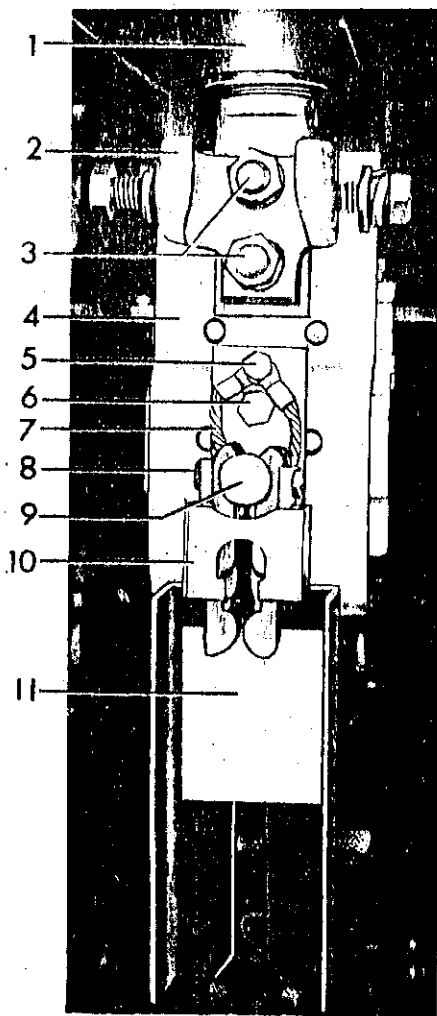
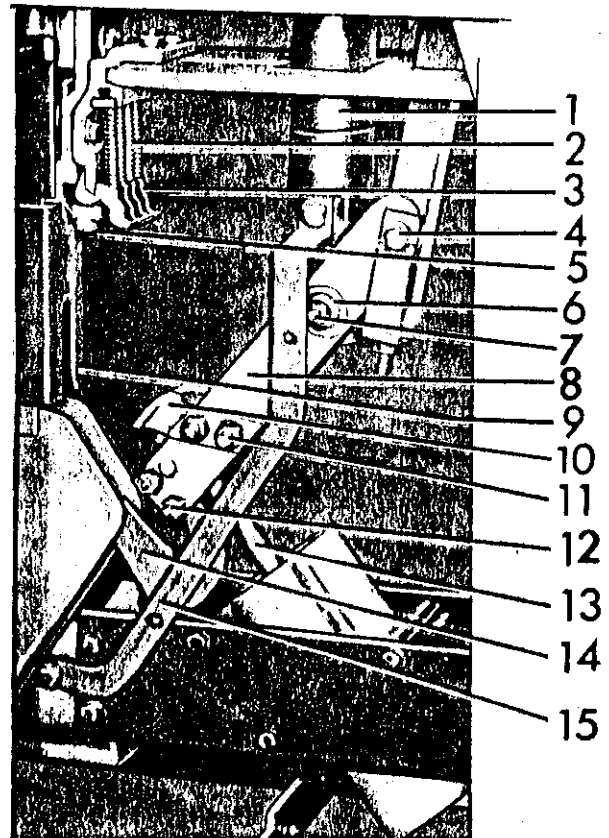

Figure 22. (8039586) Rear Bushing Assembly
Figure 23. (8038805) Contact Assembly
2. Primary Contacts (3 and 10 Figure 23). Inspect the condition of the stationary contact fingers and movable contact blocks. Badly pitted or burned contacts should be replaced. (Note: Burned primary contacts indicate the probable need for arcing contact replacement.) If the contact surfaces are only roughened or galled, they should be smoothed with crocus cloth or draw filed. After contact dressing the primary contacts should be greased lightly with D50H47.
7. The cup bearing and the contact ring at the hinge point of the contact blade should be disassembled, inspected, cleaned, and relubricated with G-E contact lubricant D50H47. The contact ring should be inspected for wear and replaced when reduced in thickness to less than 1/32". When reassembling the cup bearing, be sure the cotter pin is properly assembled in the castle nut on the hinge pin (7) Figure 23. This assures proper contact pressure at the hinge.
3. The stationary primary contact fingers (3) Figure 23, should be disassembled and the silver-plated pivot area of the contact and contact support cleaned and lubricated with G-E lubricant D50H47.
#### A. Stationary Arcing Contacts (10) Figure 22.
1. Disconnect the contact braids (7) from the contact fingers by removing two bolts and locking plates (8).
3. To disassemble braids from stud plate remove one bolt (5).
4. To disassemble stud plate from contact support, remove two bolts (6).
5. Reassemble in the reverse order, make sure locking plates are properly reassembled with bolts (8).
#### B. Movable Arcing Contact (14) Figure 23.
1. Remove the assembly bolts (12) making note of quantity and location of shims and spacers used between contacts and contact arms.
3. Close the breaker slowly to check that the movable arcing contact is approximately centered on the stationary arcing contact and that it does not rub on either side of the throat barrier (9).
D. Movable Primary Contacts (10) Figure 23.
1. Disassemble operating rod pin (4), first noting quantity and location of washers in the assembly.
2. Pry contact arms (8) apart enough to disengage pivot pins of piston assembly (13) allowing piston to drop down into its booster cylinder.
3. Rotate the two parts of the contact arm assembly away from each other so assembly bolts (11) are accessible and movable primary contacts (10) can be removed.
E. Contact Arm Assembly (8, 10, 13, 14) Figure 23.
1. Remove connection bar (15).
2. Disassemble hinge pin (7), cup bearing (6) and operating rod pin (4) noting quantity and location of any washers and spacers used in assemblies.
3. The contact arm assembly including the piston assembly (13) can now be removed.
4. When reassembling, first insert piston tube assembly (13) into the booster cylinder and reassemble the cup bearing, making sure the silvered contact washers between the bushing and contact arms (both sides) are in place.
5. Reassemble operating rod pin (4) and connection bar (15).
5. Disassemble the spring retainer (4) by removing mounting bolts (5).
6. Referring to Figure 22, disassemble the contact support (4) and interrupter mount-
3. Remove the connection bar (15) Figure 23, cup bearing (6) and hinge pin (7).
5. When reassembling, first mount the bushing and assemble the cup bearing (6), contact arm (8), and replace pin (7) being sure the silvered contact washers between the bushing and contact arms are in place. The contact surfaces at the hinge point of the contact blade and bushing should have a thin coating of D50H47 grease.